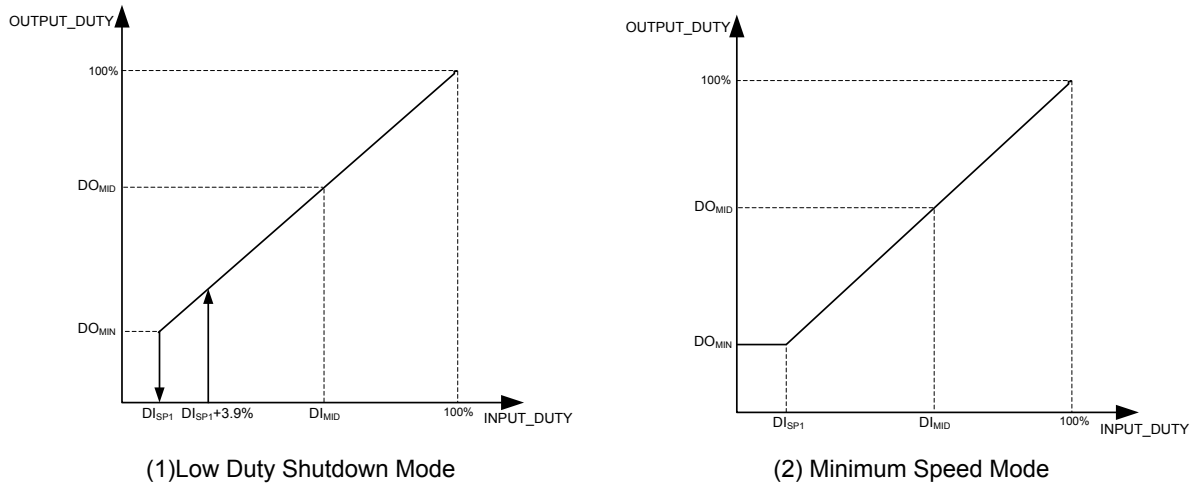

Figure1: Multi Mode Output Duty Control Curve
The APX9177A has two types PWM speed control curve, it select by SP1 pin voltage setting. The first type of PWM speed control curve (See Figure1: Multi Mode Output Duty Control Curve), it can set up low duty shutdown mode or minimum speed mode by VREF pin output current ( $I_{VREF}$ ) decision and the SP1 pin set up range is GND to VREF-0.3V. In this type (1), when PWM input duty is less than  $DI_{SP1}$ , the output will close. Until PWM input duty is rising more than  $DI_{SP1}+3.9\%$ , the output will startup.